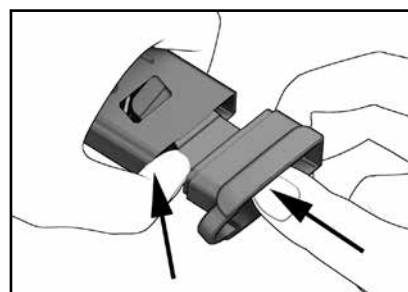

Figure 31
5. On 10-round magazines, push the floorplate up onto the base of the magazine housing until the locking tabs engage in the sides of the housing. (Figure 31)